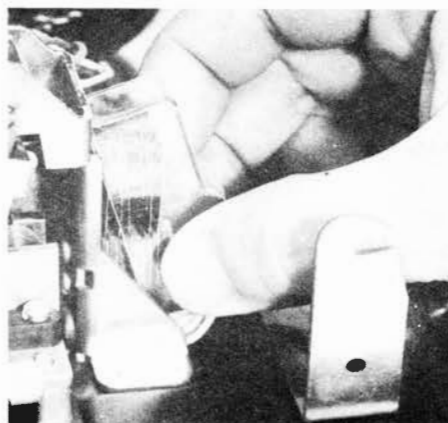

Fig. 35 — Switch-cover Assembly
- 4.10 The switch cover is held in place by ears on the cover which engage indentations on switch assembly mounting (see Fig. 35).